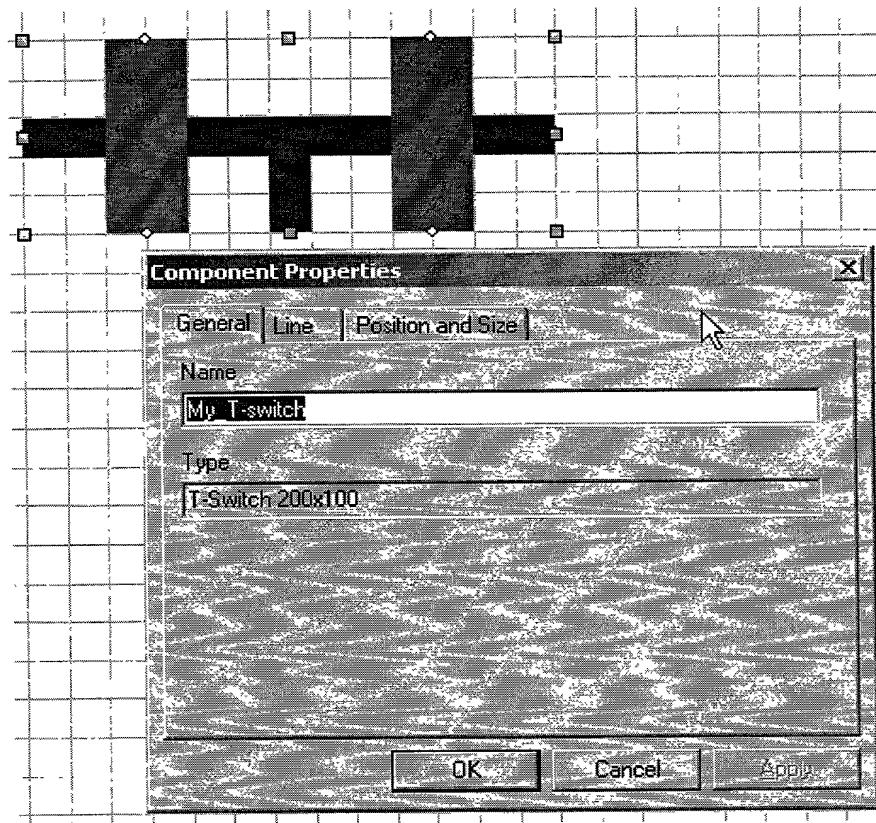

Figure 59 – Component Instance Property Dialog Box
- The Component Properties dialog box will appear. In this case, this component has been named “My\_T-switch”. Figure 59 shows that type of component as well as two other tabs that contains placement information regarding the component.